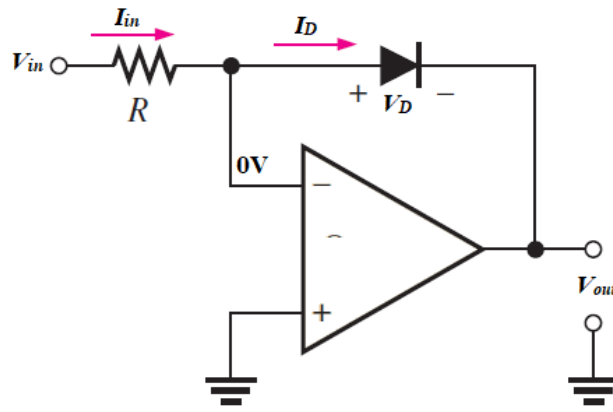

Fig. 19
An analysis of the circuit in Figure 19 is as follows, beginning with the facts that:
**Example:** Determine the output voltage for the log amplifier in Fig. 19. Assume  $I_R = 50\text{nA}$  and  $R=100\text{k}$ .
**Note2:** The input must be positive when the diode is connected in the direction shown in the Fig. 19. To handle negative inputs, the diode must be reversed.